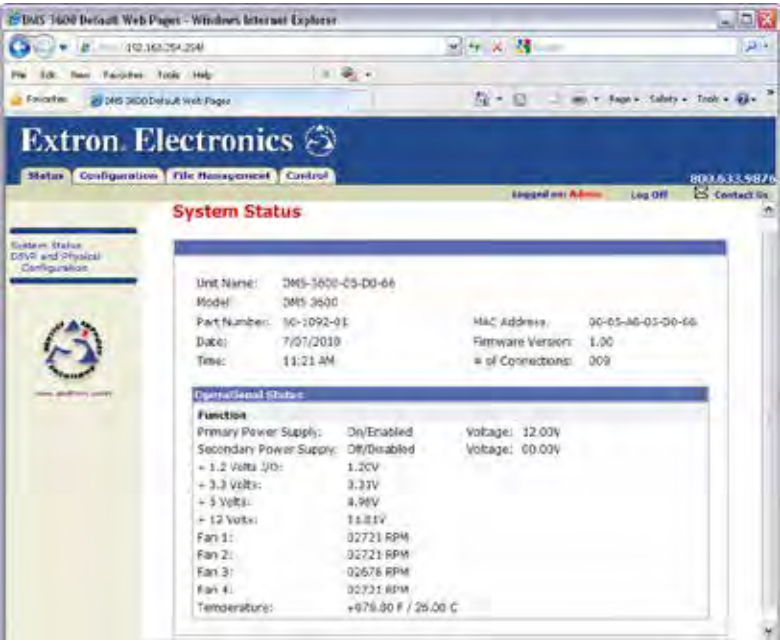

Figure 56. System Status Page
- If neither of the above conditions is true, the switcher downloads the factory-installed default startup page, "`nortxe_index.html`", also known as the System Status page (see figure 56, on the next page).
The System Status page (see figure 56) provides an overall view of the status of the matrix switcher, including individual voltages and the serial port status (if applicable). The System Status page is the default page that the switcher downloads when you connect to the switcher. Access the System Status page from other pages by clicking the **Status** tab.